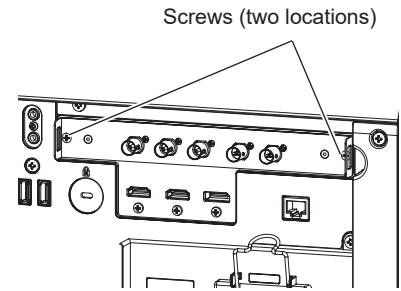

Fig. 3
3) Fix the Function Board. (Fig. 3)